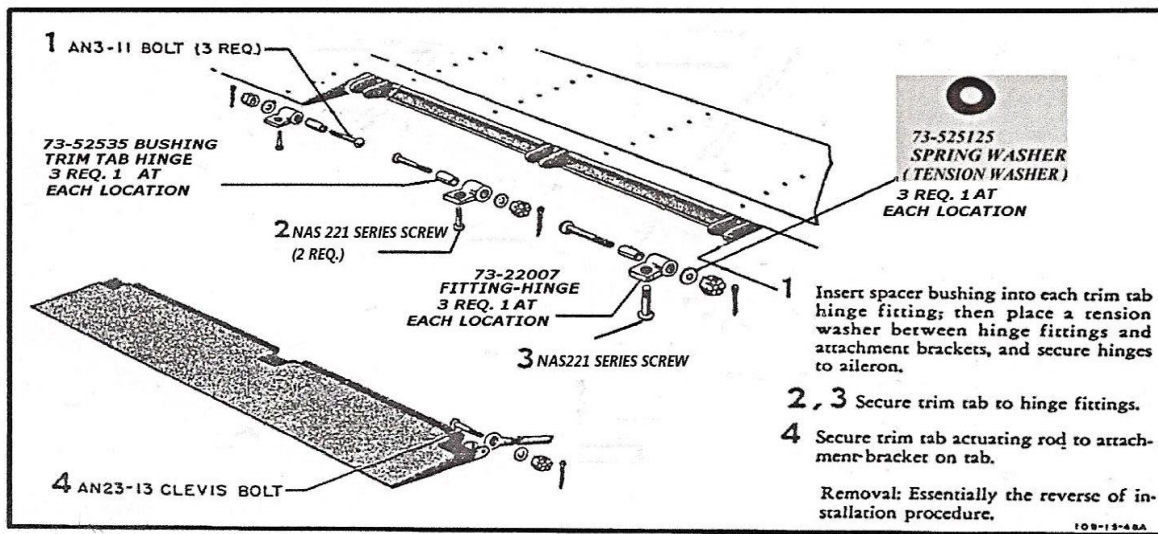

FIGURE 90- INSTALLING AILERON TRIM TABS REVISED UNDER LTC-11-5 MAY 1 2013
Supplement No. 1 to Service Bulletin P51-001 dated May 1, 2013 is to correct information contained in AN 01-60JE-2 Handbook Maintenance Instructions USAF Series F-51D, ZF-51K, F-51M, TF-51D dated December 20, 1944, revised December 20, 1952. Handbook page 84 figure 90 "Installing Aileron Trim Tab" incorrectly notes P/N NAS220-9 and NAS220-11 (8-32 thread structural screws) to be installed in spline nut P/N 22D8-02 (or 22ND8-02) 10-32 thread. This spline nut is installed in each of the trim tab hinge fittings P/N 73-22007.
This Handbook is FAA approved for use in the Limited Type Certificate LTC-11-5 and is also reference for P-51D thru P-51K aircraft. A copy of figure 90 was included in Service Bulletin P51-001, dated May 1, 2013 page 7.
- Attach this Supplement No.1 to Service Bulletin P51-001 dated May 1, 2013 to update page 7 figure 90 "Installing Aileron Trim Tabs" with figure 90 below to reflect the correct P/N NAS221 Series structural screw 10-32 thread.
- Apply the enclosed adhesive back revised figure 90 to AN 01-60JE-2 Handbook Maintenance Instructions for USAF Series F-51D, ZF-51K, F-51M, TF-51D dated December 20 1944, revised December 20 1952, page 84 figure 90 "Installation of Aileron Trim Tab" to reflect the correct structural Screw P/N NAS221 series 10-32 thread. Also update other manuals as may be deemed necessary.